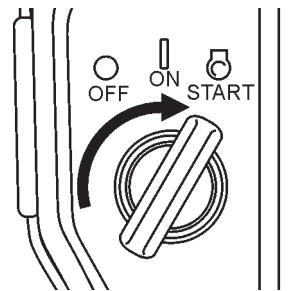

Figure 36. Ignition Switch (Start Position)
7. Rotate the **Engine Shutdown switch** (Figure 36) to the **START** position to engage the starter.